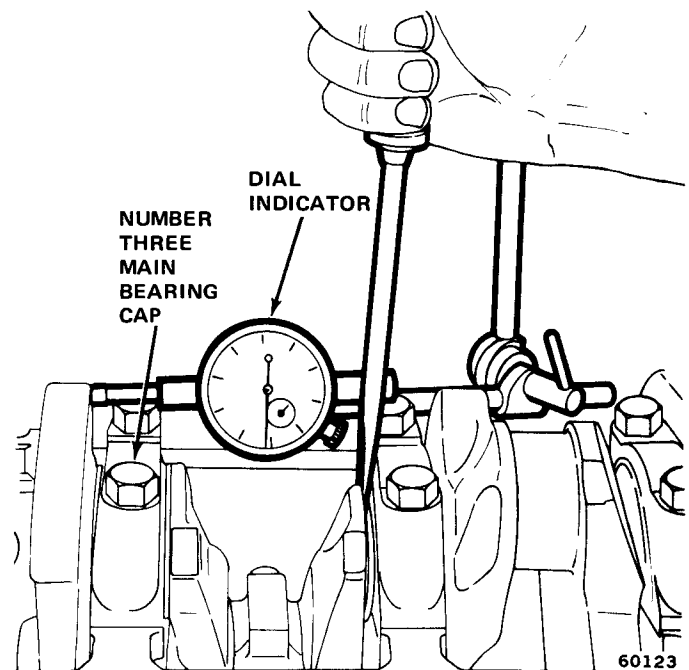

Fig. 1A-46 Measuring Crankshaft End Play
- (1) Attach a dial indicator to cylinder block adjacent to No. 3 main bearing.
- (2) Pry shaft forward with a flat-bladed screwdriver, set dial indicator, push rod on face of crankshaft counterweight, and set to zero.
- (3) Pry shaft fore and aft. Read dial indicator (fig. 1A-46). The end play is the difference between the high and low readings.
- (4) The correct crankshaft end play is 0.0015 to 0.0065 inch (0.002 to 0.0025 desired).
- (5) If end play is incorrect according to specifications, inspect crankshaft thrust faces for wear. If no wear is apparent, replace thrust bearing and recheck end play. If end play is still outside specifications, the crankshaft must be replaced.